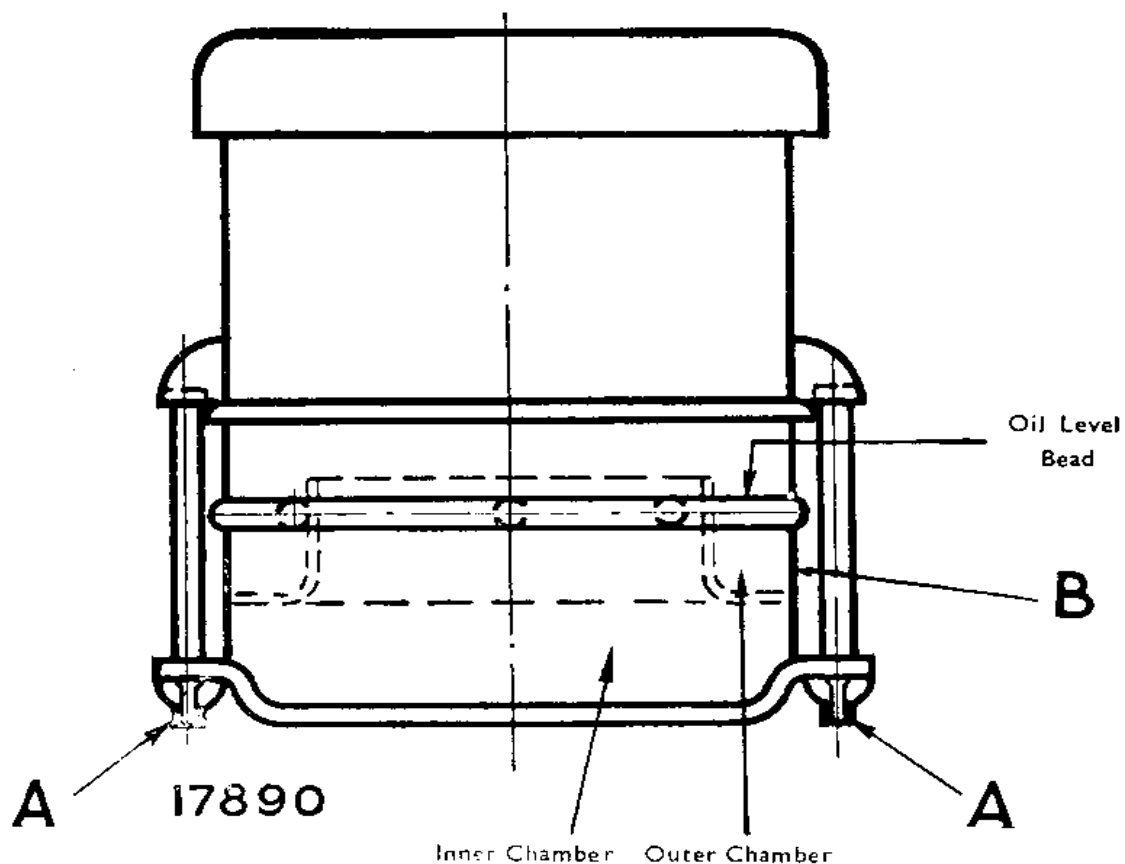

Fig. 5
(See Lubrication Chart, page 11 and Fig 5 for oil level).
- (a) **Examine oil cup daily.** *See Fig. 5.*